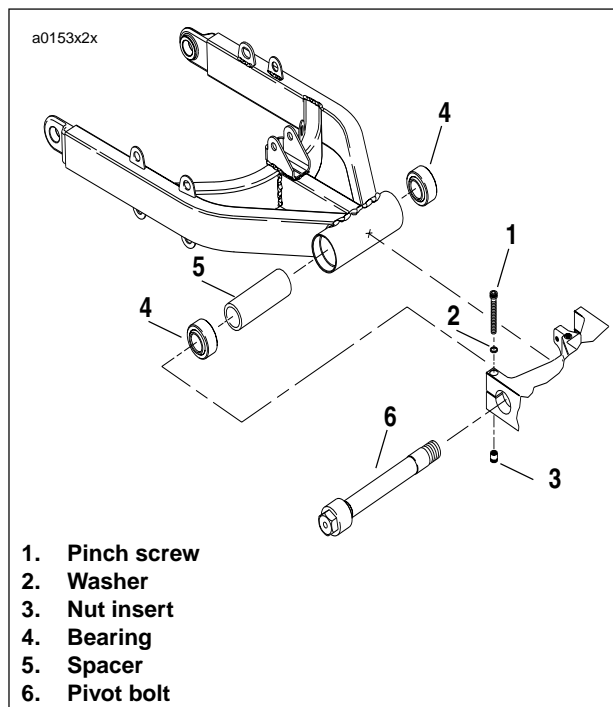

Figure 2-100. Swingarm
11. See Figure 2-100. Loosen swing arm pinch screw (1).
12. Remove swingarm pivot bolt (6) and swingarm.
14. Use slide hammer (SNAP-ON Part No. CJ1275 or equivalent) and bearing remover to remove bearings (4).
15. Remove swingarm spacer (5).
1. See Figure 2-100. Install **new** bearings (4) and spacer (5).
2. Position swing arm in mounting block. Apply anti-seize to swingarm bolt (6) and install. Tighten to 24-26 ft-lbs (33-35 Nm).
3. Apply Loctite 243 (blue) to pinch screw (1) and install. Tighten to 17-19 ft-lbs (23-26 Nm).